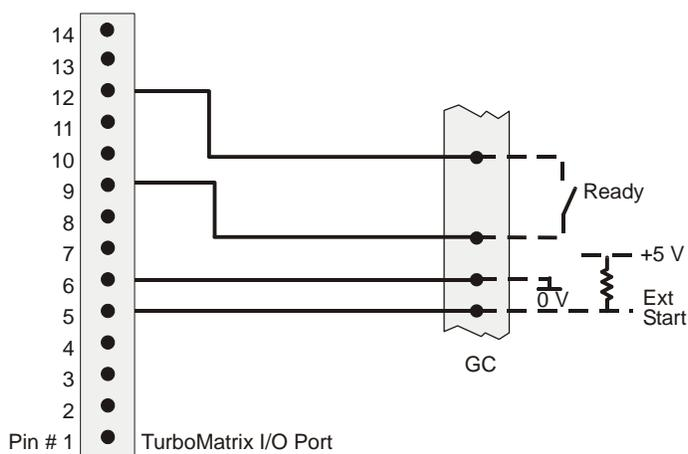

Figure 5 Connecting the HS to Another GC Using the Ready/Start Cable
1. Connect the generic Ready/Start Cable Assembly (P/N N1011206) between the Input/Output socket on the HS and make the appropriate connections on the GC, as shown in *Figure 5*.